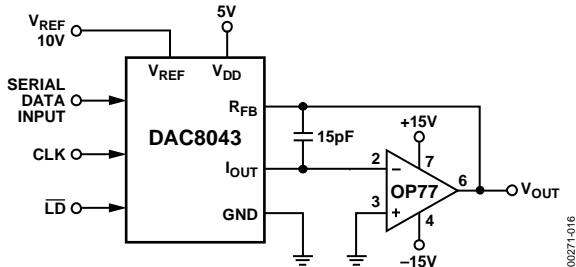
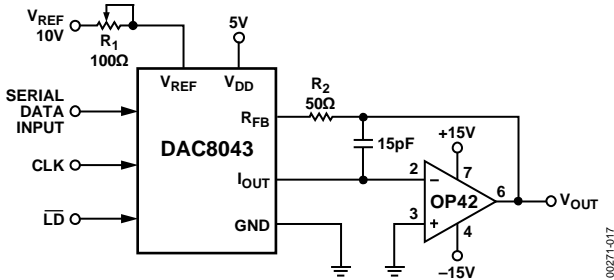

Figure 16. Unipolar Operation with High Accuracy Op Amp (2-Quadrant)
Figure 17. Unipolar Operation with Fast Op Amp and Gain Error Trimming (2-Quadrant)
1. Phase compensation (see Figure 16 and Figure 17).
In most applications, linearity depends upon the potential of the IOUT and GND pins being equal to each other. In most applications, the DAC is connected to an external op amp with its noninverting input tied to ground (see Figure 16 and Figure 17). The amplifier selected should have a low input bias current and low drift over temperature. The amplifier's input offset voltage should be nulled to less than 200 μV (less than 10% of 1 LSB).
The circuits shown in Figure 16 and Figure 17 may be used with an ac or dc reference voltage. The output of the circuit ranges between 0 V and approximately -VREF (4095/4096), depending upon the digital input code. The relationship between the digital input and the analog output is shown in Table 6. The limiting parameters for the VREF range are the maximum input voltage range of the op amp or ±25 V, whichever is lowest.
Gain error may be trimmed by adjusting R1, as shown in Figure 17. The DAC register must first be loaded with all 1s. R1 may then be adjusted until VOUT = -VREF (4095/4096). In the case of an adjustable VREF, R1 and R2 may be omitted, with VREF adjusted to yield the desired full-scale output.
1 Nominal full scale for Figure 16 and Figure 17 circuits is given by
2 Nominal LSB magnitude for Figure 16 and Figure 17 circuits is given by